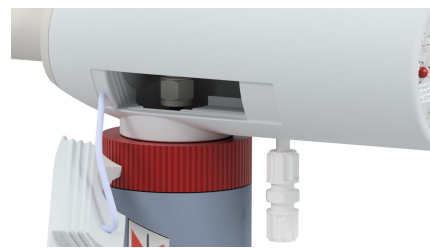

Fig. 3
- Remove the nut and lock rings for the fitting (Fig. 3) through this assembly opening and properly mount to the Smartline tube